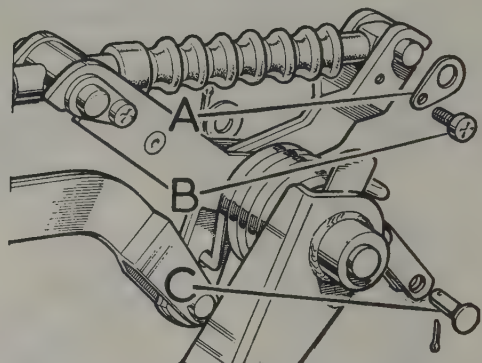

Fig. 8.9. Handbrake cable, rear connections
- 3 Disconnect the handbrake cable from the rear brake calipers by slackening the two crosshead screws "B" and retaining plates "A". Remove the lower clevis pin from the left-hand side caliper and detach the cable from the two levers (Fig.8.9).